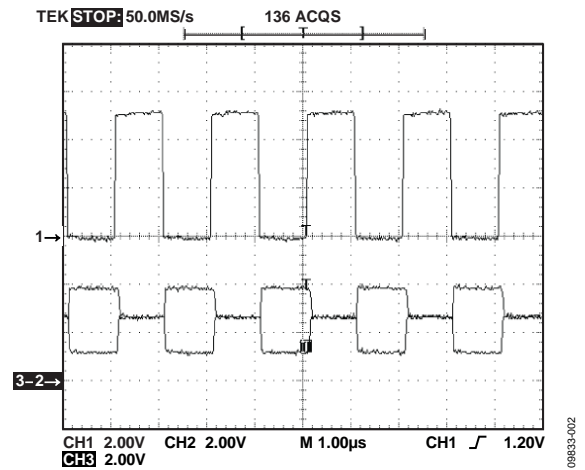
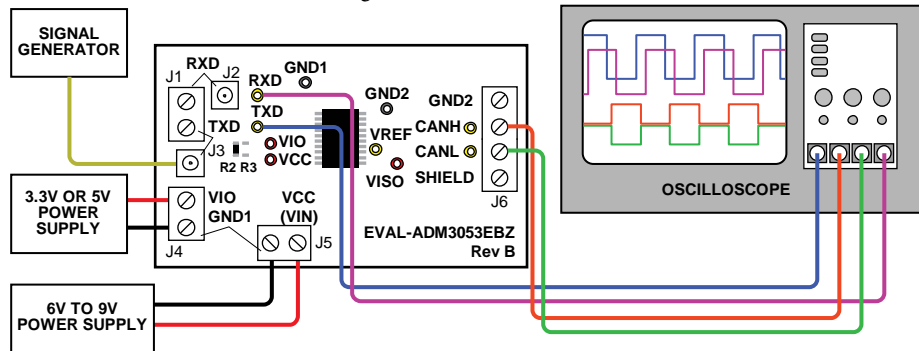

Figure 2. ADM3053 TXD, CANH, and CANL Signals
Figure 3. Basic Isolated CAN Transceiver Evaluation Board Operation
The EVAL-ADM3053EBZ evaluation board default configuration is shown in Figure 3. In the default configuration, R2 is fitted with a 0 Ω resistor, and R3 is open, which allows VIO to be powered by 3.3 V or 5 V on J4, corresponding to the logic levels required for TXD and RXD. A power supply with a voltage of 6 V to 9 V is required on the input supply, Pin 8 (IN) of the on-board low dropout regulator, LDO (VCC on J5). The on-board LDO generates the required 5 V to the ADM3053 VCC pin. By fitting R3 with a 0 Ω resistor and removing R2, VIO of the EVAL-ADM3053EBZ is connected to the ADM3053 VCC pin, and the complete board can be powered by a 9 V battery (for example, for electromagnetic current (EMC) testing).
Figure 3 shows an example operation of the EVAL-ADM3053EBZ. Connect a clock generator on TXD and set up a 500 kHz square wave clock with the output swinging between 0 V and 5 V. Connect the scope probes to the test points: TXD, RXD, CANH, and CANL. Figure 2 shows an example oscilloscope plot; Channel 1 shows the TXD signal, and Channel 2 and Channel 3 show the CANH and CANL signals.